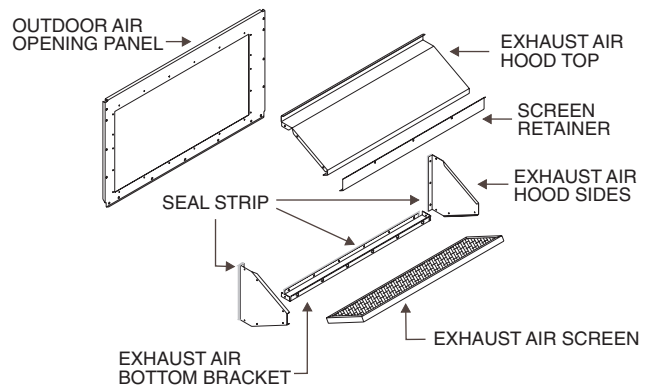

Fig. 21 — Exhaust Air Hood Assembly
Remove the EconoMi\$er hood from its packaging. Remove shipping brackets holding hood package to EconoMi\$er. Locate the outdoor-air opening panel. See Fig. 21. Remove hood assembly shipping brackets located on the back (sloped) side of the EconoMi\$er assembly. These brackets are used to retain the hood assembly during shipping only.
3. Install the $\frac{1}{8} \times \frac{3}{4}$ in. seal strip on the exhaust air hood side panels and the bottom bracket. Assemble the exhaust air hood to the outdoor-air opening panel as shown in Fig. 21, using the screws provided. *Do not attach hood assembly to unit at this time.*